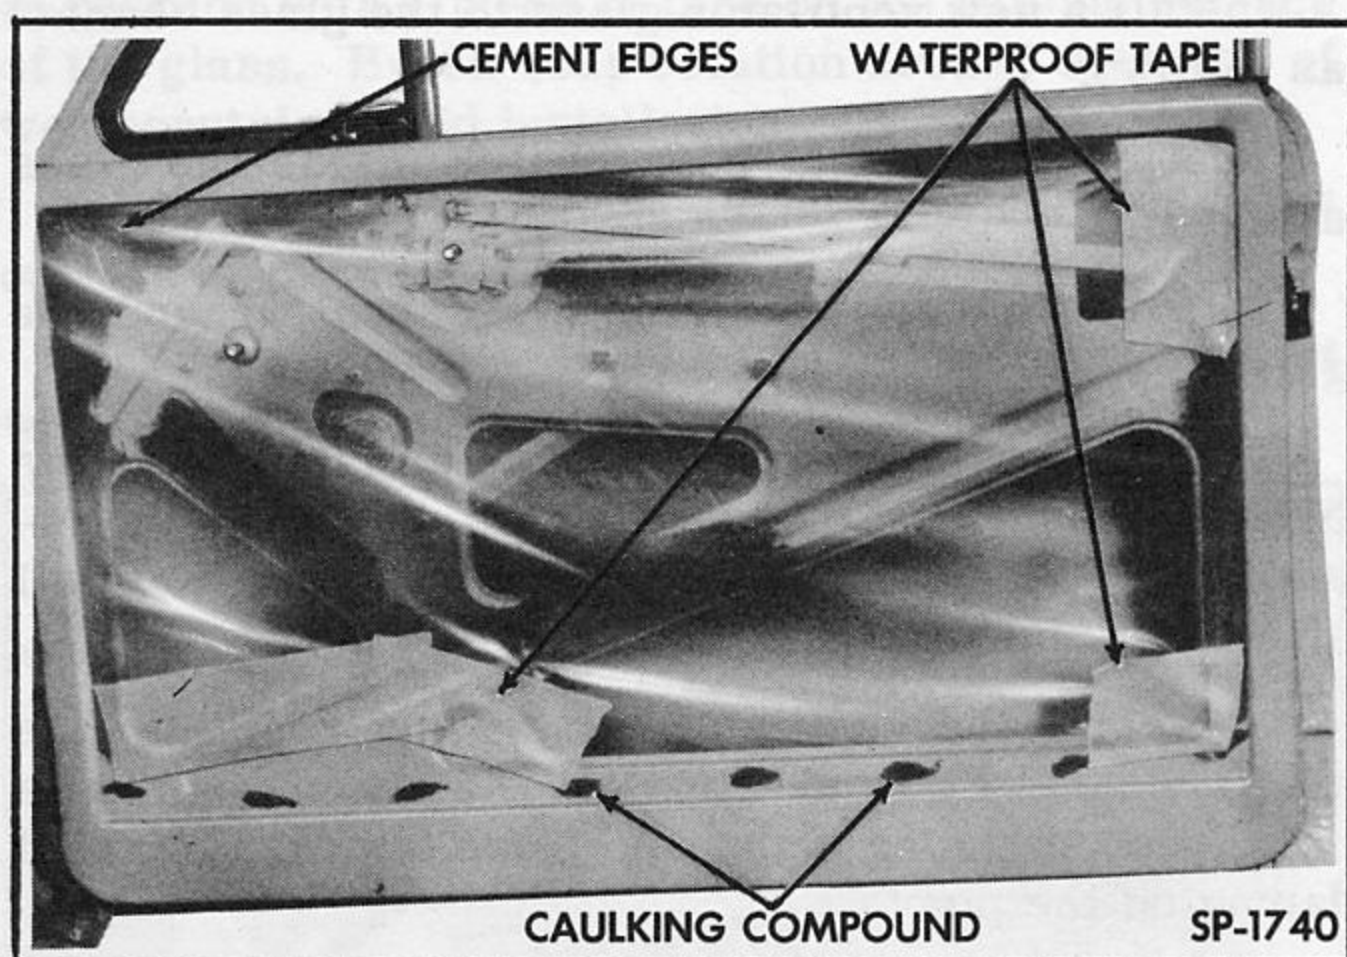

Fig. 233—Door Inner Panel Weatherseal
5. To install, reverse this procedure. When installing inner panel weatherseal, brush trim cement around sides and top of door inner panel where weatherseal attaches. Press it in place with lower ends inserted into access holes. Apply waterproof tape along bottom of access holes as shown in Fig. 233 to assure a good seal. Apply a small amount of caulking compound over each clip hole along bottom of door.